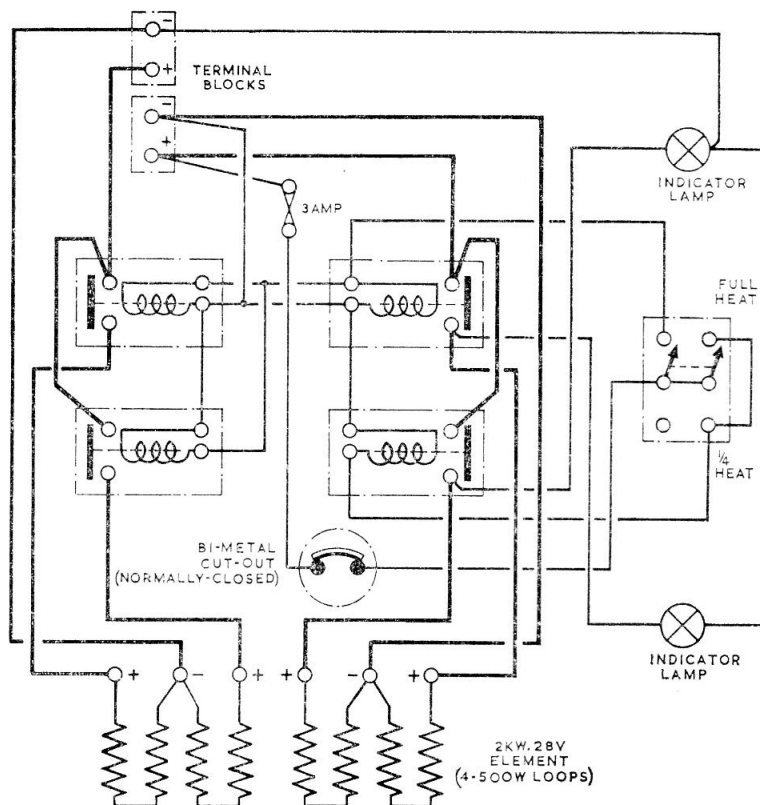
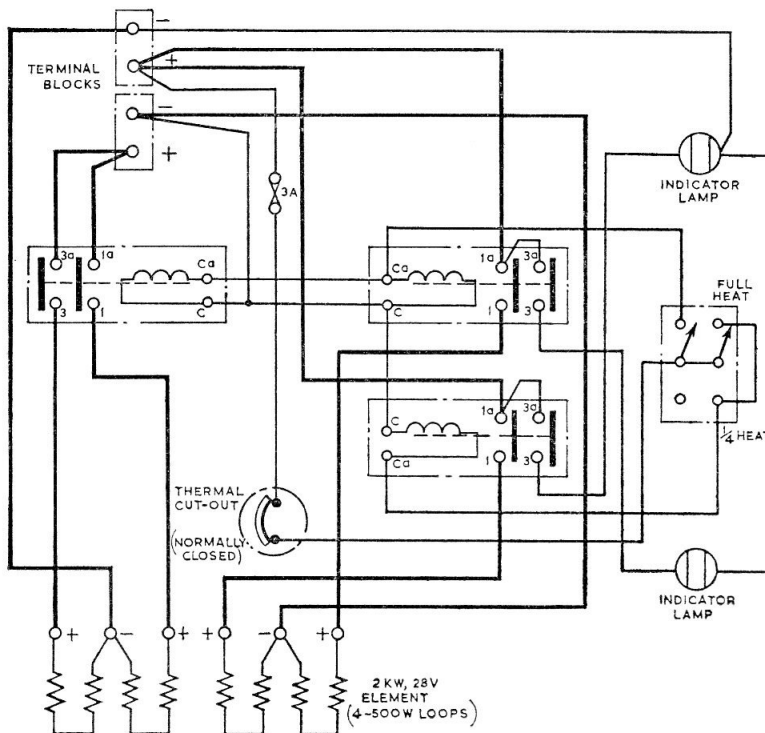

Fig. 3. Circuit diagram, 4-relay types
Fig. 4. Circuit diagram, 3-relay types
4. The three-position heat control switch controls the relays in the heater element circuit, in early production models there were four Type P.1 relays which were later replaced by Type S.1 relays of larger contact rating, these were subsequently superseded by Type S.7 relays. The larger current carrying capacity of the contacts of the relays enabled the number of relays fitted to the urn to be reduced from four to three, the circuit diagram in fig. 3 shows that required for early production models and that in fig. 4 for the later production models.
6. When the control switch is placed in the FULL-HEAT position all four relays are energized. These relays are each connected in series with a 500 watt heater element as shown in fig. 3, and the total loading is thus 2000 watt. When the switch is placed in the $\frac{1}{4}$ -HEAT position only one of the relays is energized giving a loading of 500 watt.
7. In the 3-relay type of urn one relay is used to control two of the 500 watt elements, each of the other relays controls one 500 watt element as shown in fig. 4. When the control switch is placed in the FULL-HEAT position all three relays are energized and the total loading is 2000 watt, in the $\frac{1}{4}$ -HEAT position only one relay is energized and the loading is 500 watt.